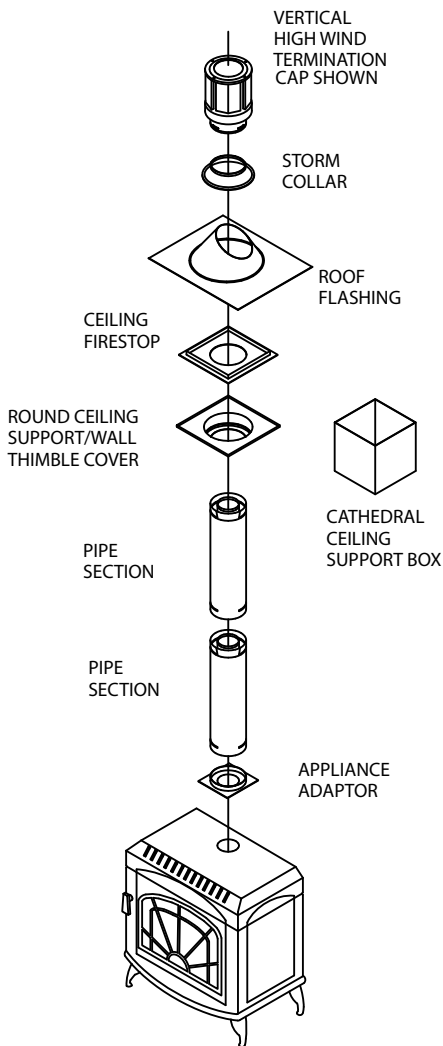

Figure 3
• **Vertical Termination (Fig. 3)**